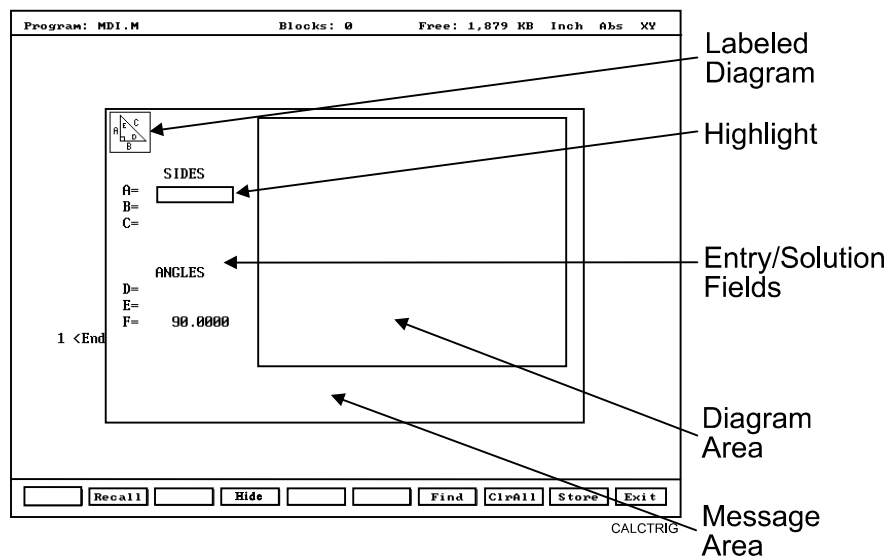

Figure 12-3, Right Triangle Calculator Screen
2. Highlight the **Triangle Calculator** template, and press **ENTER** to activate the Triangle Calculator. Refer to **Figure 12-3**.